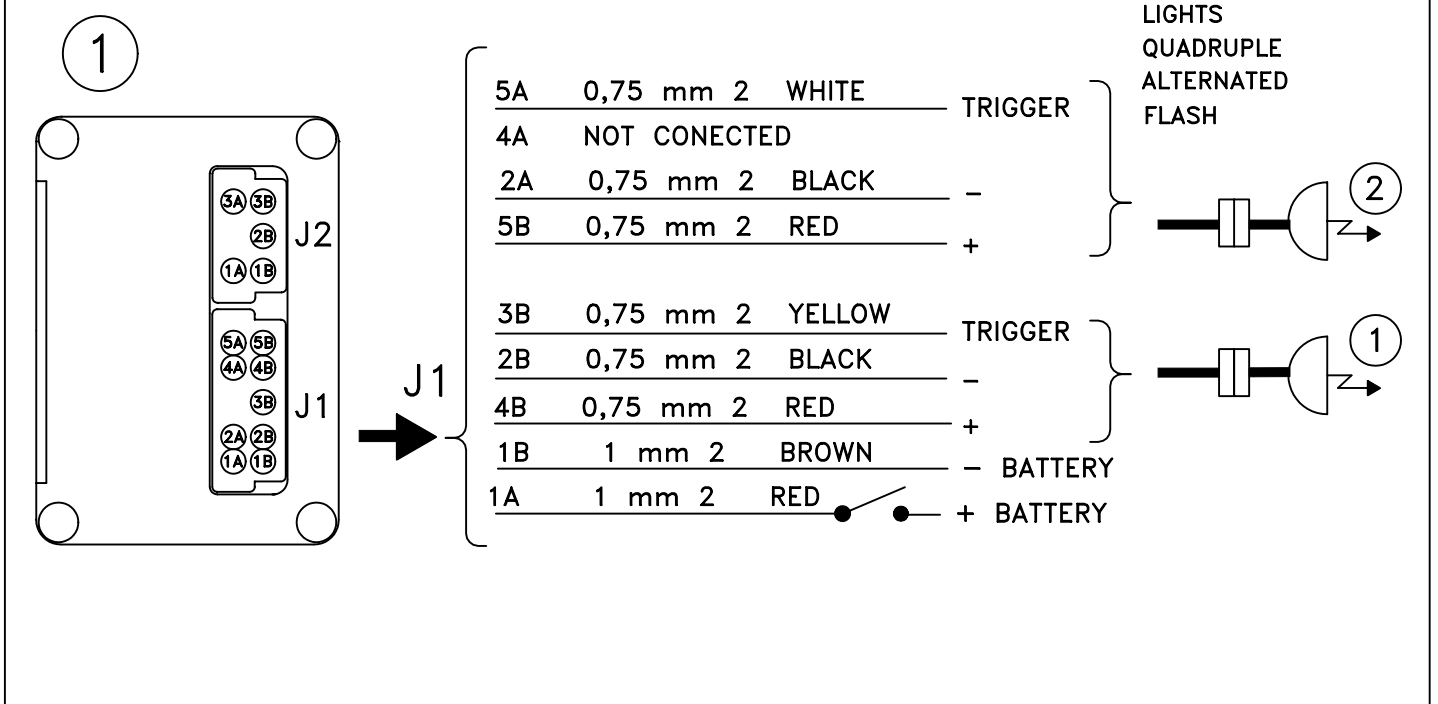

FIGURE 5.B
1) Wiring diagram for FA-540/E (figure 5.A and 5.B).